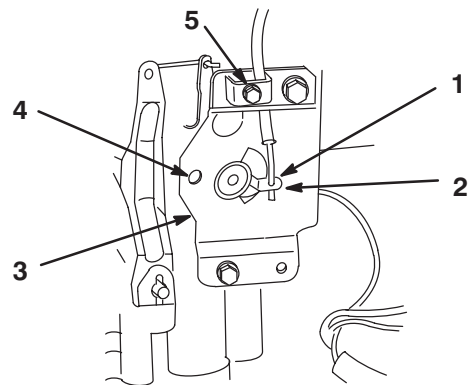

Figure 7
1. Place throttle control lever in FAST position.(Fig. 7).
2. Hook wire Z-bend into hole of speed control lever (Fig. 7).
3. Loosen cable clamp screw allowing cable installation, but do not tighten (Fig. 7).